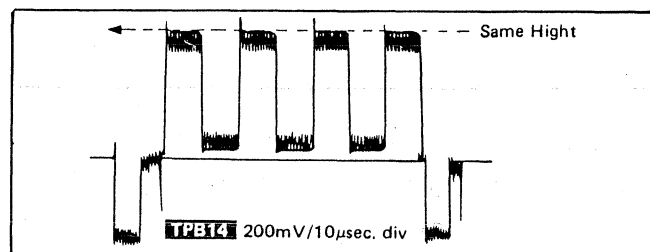

Fig. 8
- Adjust Chroma control (R5804) so that the waveform **TPB14** becomes as shown in Fig. 8.